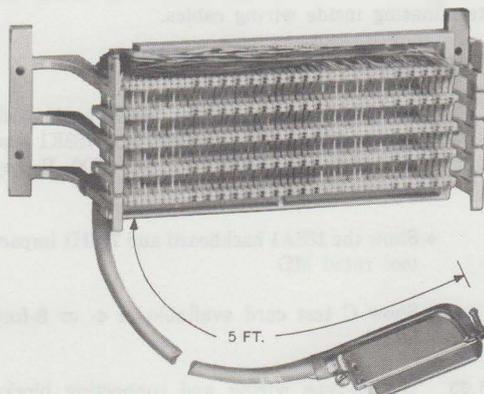

Fig. 2—88B-Type Wiring Block With Connector Cable
- (4) The third suffix numeral assignment is to identify minor design differences resulting from engineering or manufacturing improvement.
- (5) The number following the dash indicates number of pairs that can be terminated.
- (6) The letter C following the number of pairs indicates the block is supplied with a factory-wired connector-ended cable 5 feet long (Fig. 2). The blocks are factory-wired to give five multiples for each conductor. On prewired